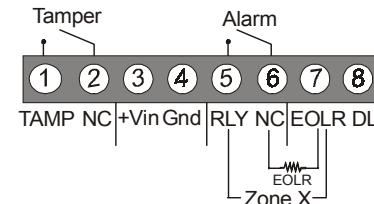

Figure 1: Terminal Block
- Wire the terminal block** as shown in Figure 1. **Note: Wiring methods shall be in accordance with the NFPA 70 standard.**
**Terminal 7:** Optional end of line resistor - see Figure 1.